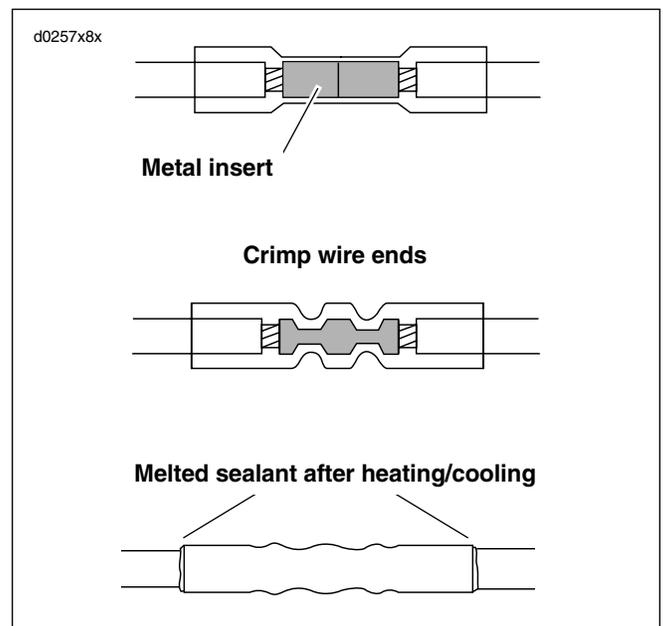

Figure 1-3. Installing Sealed Butt Splice Connectors
- See Figure 1-3. Feed the wire into the butt splice connector until the stripped end contacts the wire stop inside the metal insert.